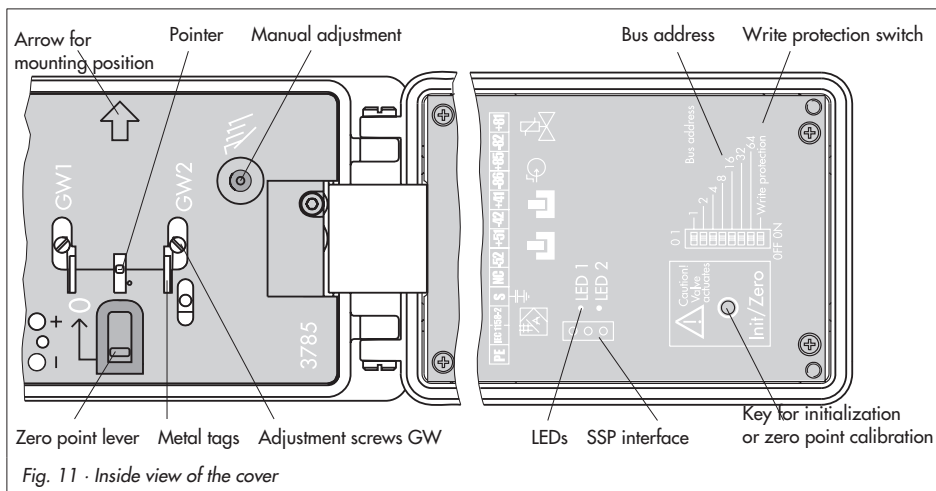

Fig. 11 · Inside view of the cover
*Before putting the positioner into operation, carefully move the valve to its final position by covering the hole (manual operation) on the cover plate (Fig. 11). Check whether the lever mechanism functions properly. If the maximum angle of rotation is exceeded by selecting the wrong lever mechanism or by sizing the mechanism improperly, the positioner may be destroyed.*
If, during the valve's operation, mechanical zero has shifted, an electric zero calibration can be carried out. To do this, press the **Init/Zero** key located on the inside of the cover (Fig. 11).
The limit switches are marked GW1 and GW2 on the inside of the case cover. Yellow tags and the associated adjustment screws (Fig. 11) are located below these markings. Each switching position can optionally be signaled either when the tag has entered the field, or when it has left the field.